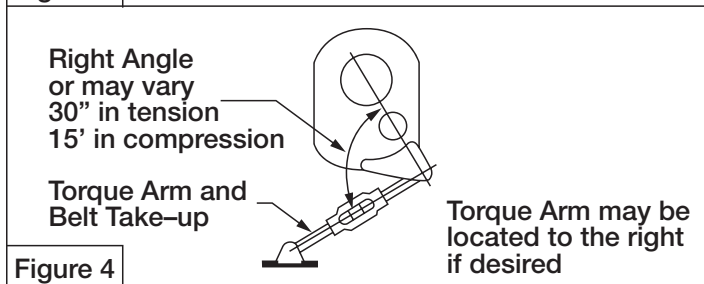

Figure 4
6. Install torque arm fulcrum on a flat and rigid support so that the torque arm will be approximately at right angles to the center line through the driven shaft and the torque arm anchor screw. (See Fig. 4) Make sure that there is sufficient take-up in the turnbuckle for belt tension adjustment when using V-belt drive.